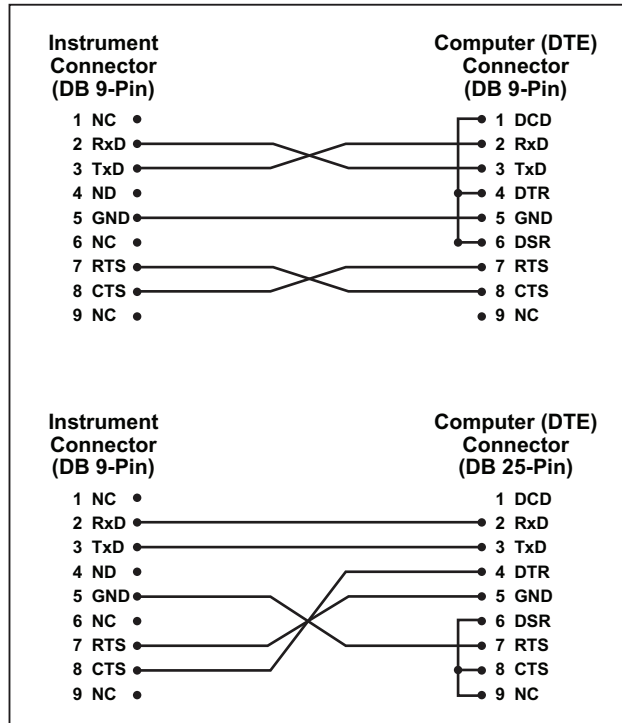

Figure 3-1. RS-232
1. Wire the remote serial interface cable as shown in Figure 3-1.